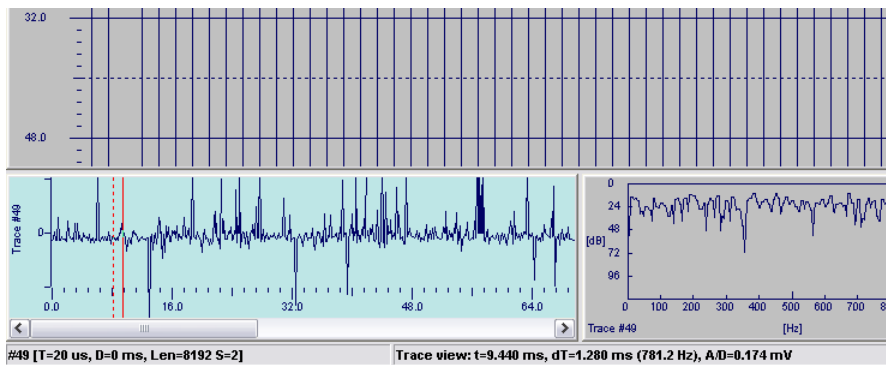

Figure 23 A reference time marker with timeline
- Move the timeline and show relative time (Figure 23)